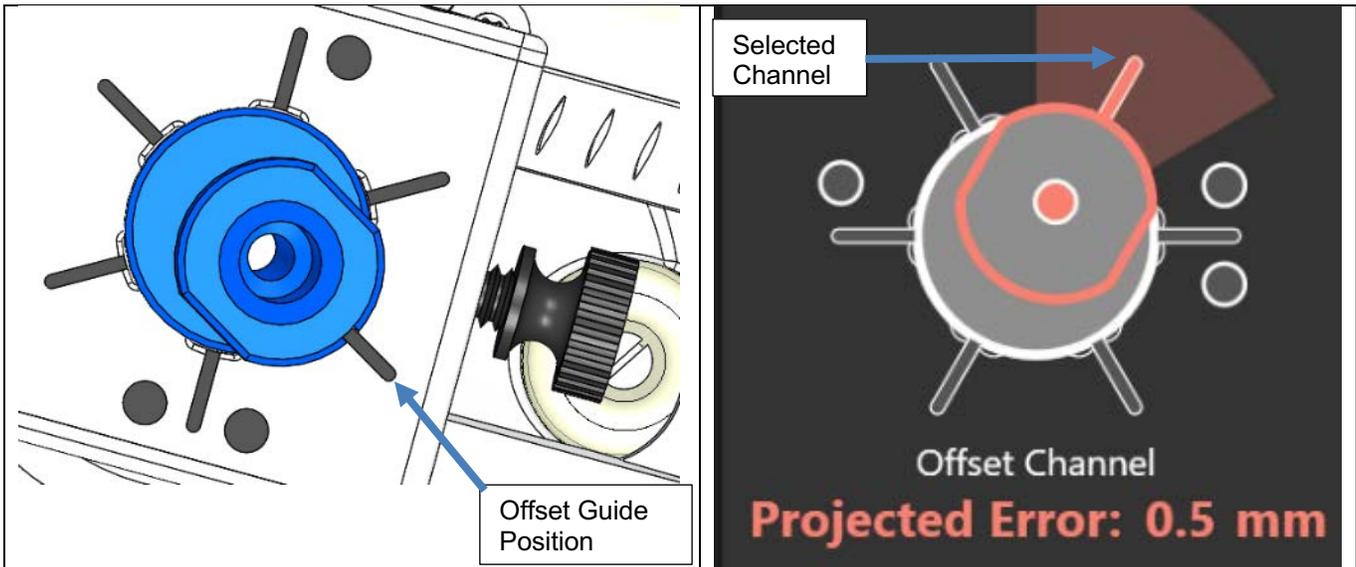

Figure 29: Offset Guide inserted into the position that was selected in the ClearPoint Array Software
6. Verify that the Offset Insertion Guide is positioned in the channel selected in the ClearPoint Array software. The orientation dots on the tower match up with those shown on the software. **See Figure 29**. If it is not, loosen the tower side thumbscrew, raise the Offset Insertion Guide and rotate it until the tab (white line) aligns with the correct position. Then, repeat Step 6.